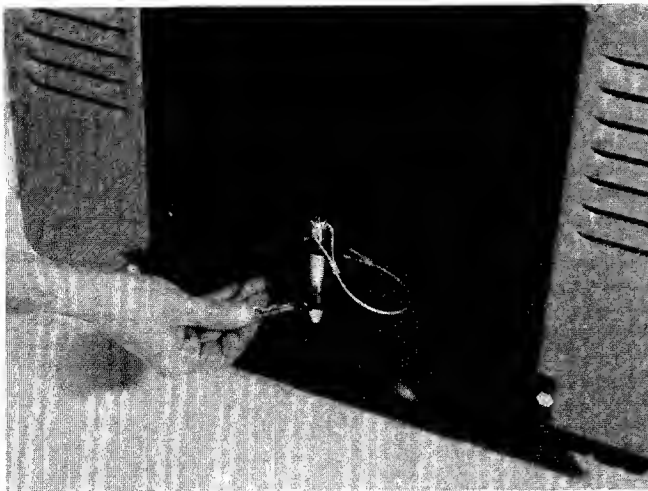

FIGURE 24.
4. Use the hitch pin to secure your attachments to the rider. See figure 24.